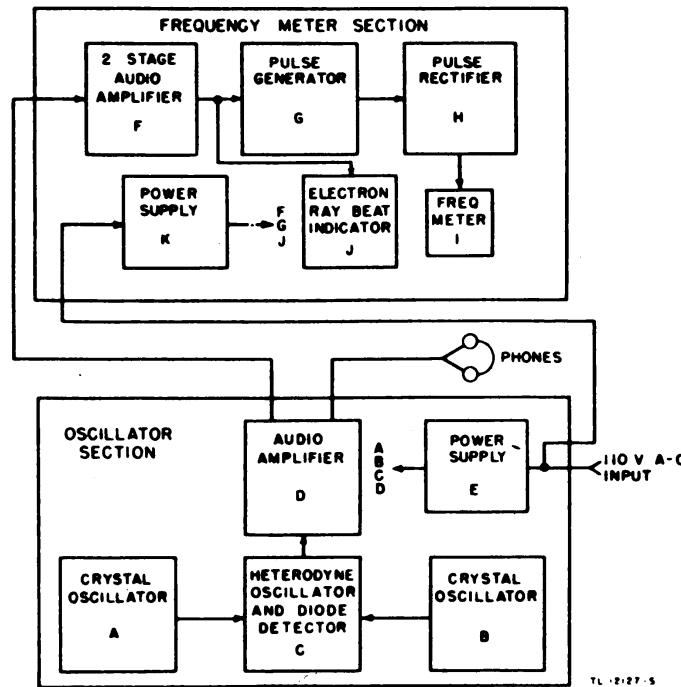

Figure 3. Crystal Test Set TS-314/FSM-1, block diagram.
11. CONNECTIONS AND INTERCONNECTIONS (fig. 3).